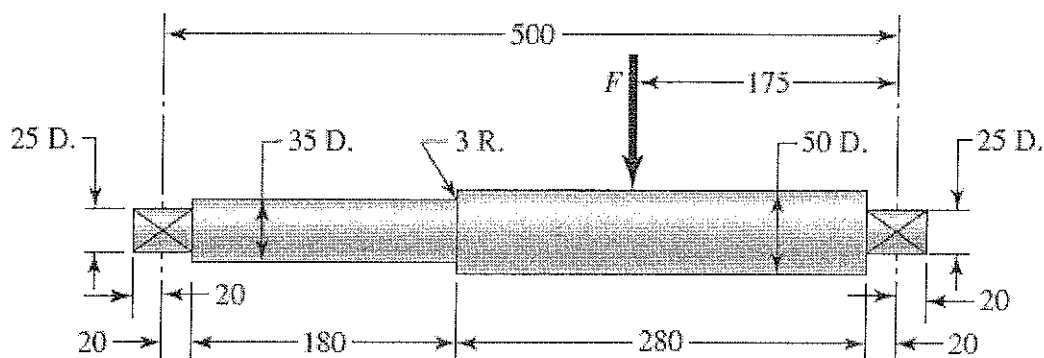

Fig.Q1
- The rotating shaft shown in Fig. Q1 is machined from AISI 1020 CD steel. It is subjected to a force of  $F = 6$  kN. Find the minimum factor of safety for fatigue based on infinite life. If the life is not infinite, estimate the number of cycles. Be sure to check for yielding. [5 M]